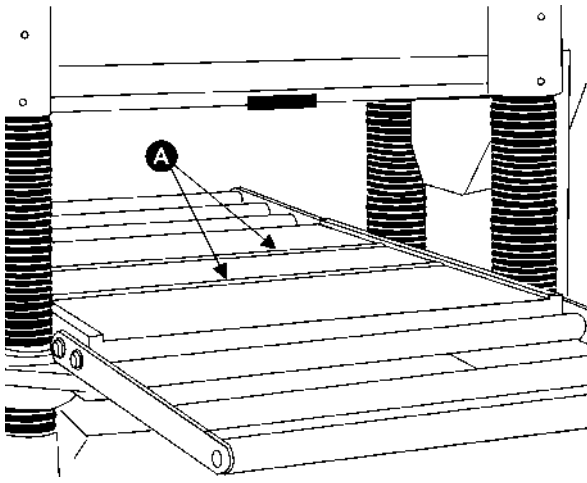

FIGURE 9
Your planer is supplied with two table rollers (A), Figure 9, which turn as the stock is fed into the planer, thus reducing friction. It is not possible to give exact dimensions on the proper height setting of the table rollers because each type of wood behaves differently.